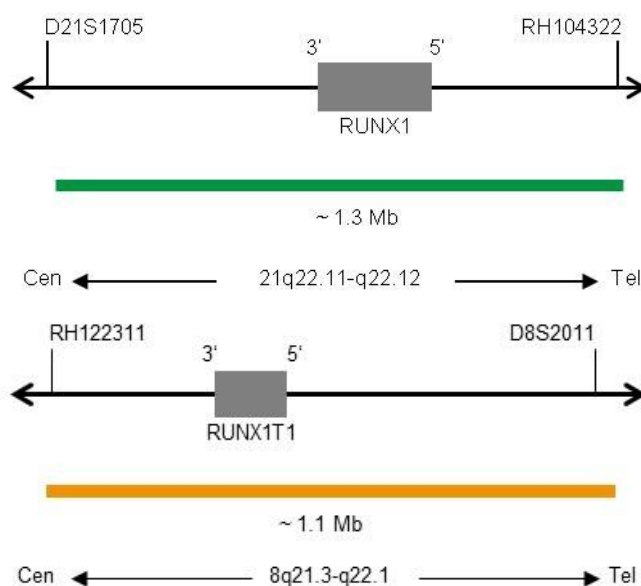

Fig. 1: Top: SPEC RUNX1 Probe map (not to scale), Bottom: SPEC RUNX1T1 Probe map (not to scale).
- ZyGreen (excitation 503 nm/emission 528 nm) labeled polynucleotides (~12 ng/ μ l), which target sequences mapping in 21q22.11-q22.12* (chr21:35,530,283-36,855,548) harboring the RUNX1 gene region (see Fig. 1).
- ZyOrange (excitation 547 nm/emission 572 nm) labeled polynucleotides (~6 ng/ μ l), which target sequences mapping in 8q21.3-q22.1* (chr8:92,632,490-93,746,043) harboring the RUNX1T1 gene region (see Fig. 1).